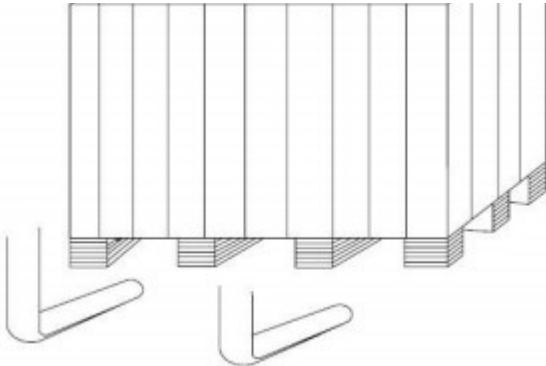
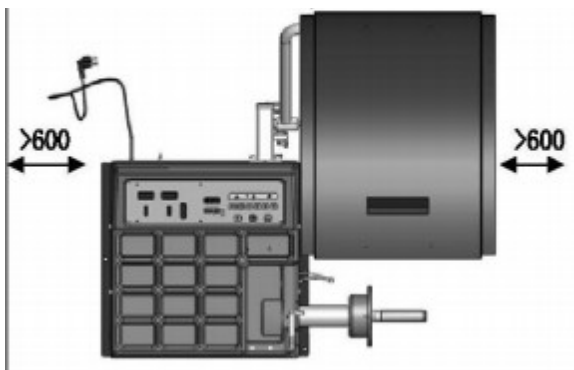

Fig. 6
Fig. 7
4.1.1 After being sure that the package of your machine is perfect, you can carry the wheel balancer to the installation site. (Fig. 6). The choice of the installation should comply with the following requirements. The ambient temperature is 0°C-50°C and the RH \leq 85%. And the installation site as shown in Fig. 7.